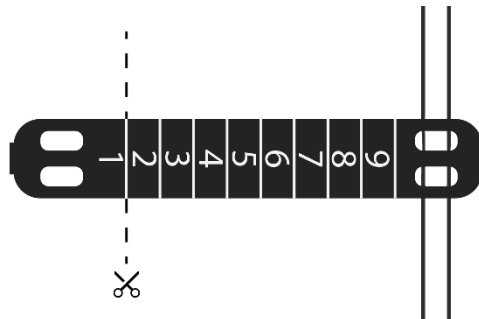

Figure 3 Cut-off plastic label marker
Any product, which is broken or kinked or has a contaminated laser coupling area at its connector should be disposed. The reusable fiber-optic product is designed and tested to withstand 9 (nine) cycles of reprocessing. Every reusable fiber probe is equipped with a plastic cut-off label marker (see Fig.1. position (3)) to record the accumulated number of performed reprocessing cycles. During each device reprocessing cycle, the outermost line of the marker from one to nine should be cut to record the number of reprocessing cycles (see Fig.3).
Function testing:	<p>While the protection cap is attached on the connector, a visual inspection along the optical fiber to exclude residual pollution should be performed. The cleaning and disinfection should be repeated if necessary. The fiber and connector should be checked for kinks, breaks, corrosion, or wear. The fiber protection jacket should be intact all along the product.</p> <p>The protection cap should be removed and the laser coupling area should be inspected under 100x magnification, for example, with a fiber optic inspection scope. It should be verified that the laser coupling surface does not have scratches larger than 1 µm or digs larger than 10 µm and is free of residues from cleaning. Potentially residues might be removed with a lint-free wipe for optics soaked with high purity isopropyl alcohol. If any irregularities are detected, the product should be disposed of.</p> <p>After the functional testing is successfully passed, the outermost line of the plastic marker from one to nine should be cut to record the number of reprocessing cycles (see Fig. 3).</p>